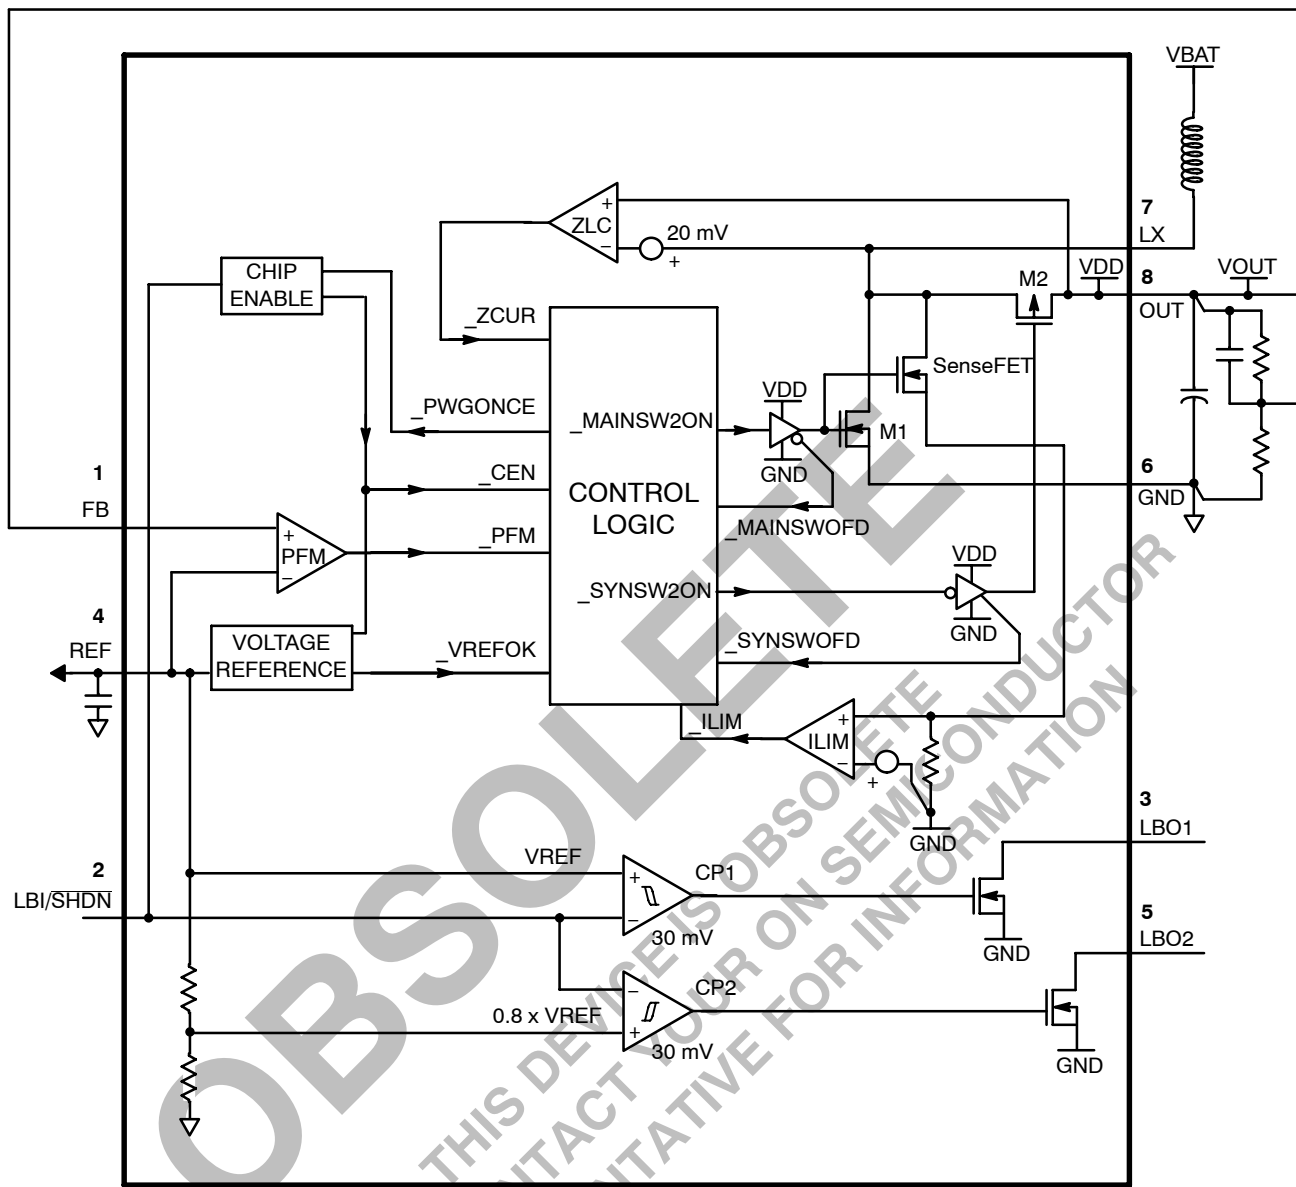

Figure 2. Simplified Functional Diagram
From the simplified Functional Diagram (Figure 2), the output voltage is divided down and fed back to pin 1 (FB). This voltage goes to the non-inverting input of the PFM comparator whereas the comparator's inverting input is connected to REF. A switching cycle is initiated by the falling edge of the comparator, at the moment, the main switch (M1) is turned ON. After the maximum ON-time (typical 1.4  $\mu$ S) elapses or the current limit is reached, M1 is turned OFF, and the synchronous switch (M2) is turned ON. The M1 OFF time is not less than the minimum OFF-time (typical 0.25  $\mu$ S), this is to ensure energy transfer from the inductor to the output capacitor. If the regulator is operating at continuous conduction mode (CCM), M2 is turned OFF just before M1 is supposed to be ON again. If the regulator is operating at discontinuous conduction mode (DCM), which means the coil current will decrease to zero before the next cycle, M1 is turned OFF as the coil current is almost reaching zero. The comparator (ZLC) with fixed offset is dedicated to sense the voltage drop across M2 as it is conducting, when the voltage drop is below the offset, the ZLC comparator output goes HIGH, and M2 is turned OFF. Negative feedback of closed loop operation regulates voltage at pin 1 (FB) equal to the internal voltage reference (1.190 V).
From Figure 2, SenseFET is applied to sample the coil current as M1 is ON. With that sample current flowing through a sense resistor, sense-voltage is developed. Threshold detector (ILIM) detects whether the sense-voltage is higher than preset level. If it happens, detector output signifies the CONTROL LOGIC to switch OFF M1, and M1 can only be switched ON as next cycle starts after the minimum OFF-time (typical 0.25  $\mu$ S). With properly sizing of SenseFET and sense resistor, the peak coil current limit is set at 1.0 A typically.